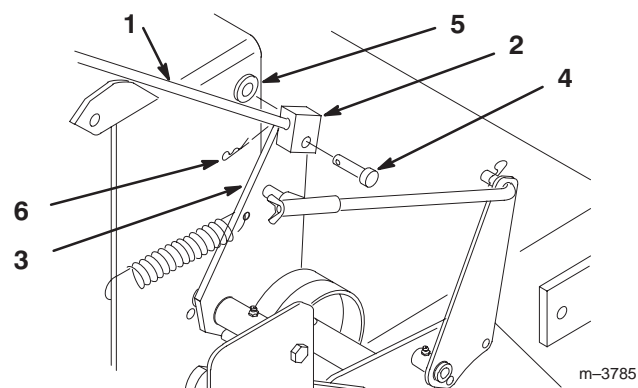

Figure 5
1. Thread trunnions equal distance onto each control rod. For a starting point thread on approximately 2 in. (51 mm) (Fig. 5).
2. With trunnion rod up, slide clevis pins through rod fittings and mounting holes in idler brackets (from outside) (Fig. 5). Secure with 1/4" (6 mm) washers and hairpin cotters (Fig. 5).